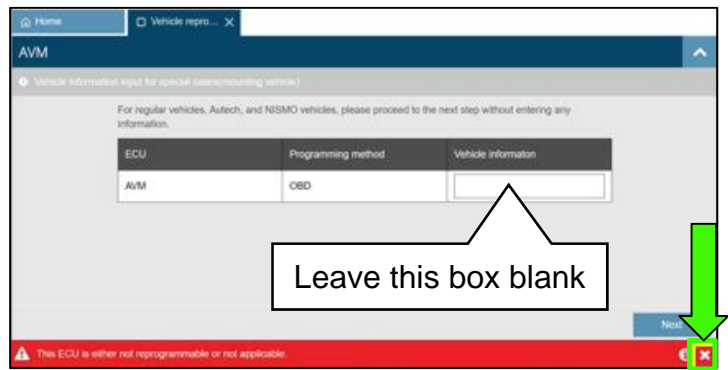
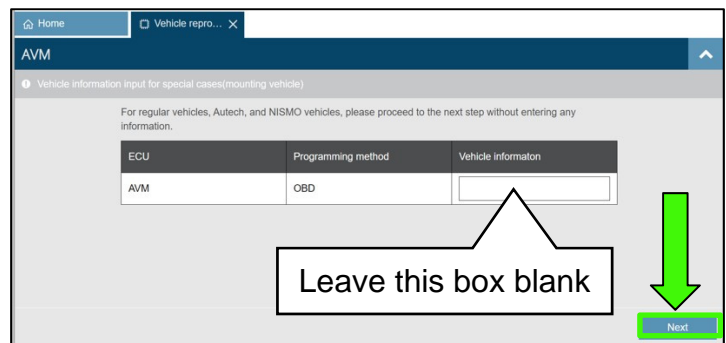

Figure 11
Figure 12
13. Select the "X" shown in Figure 11, and then select **Next** (Figure 12).